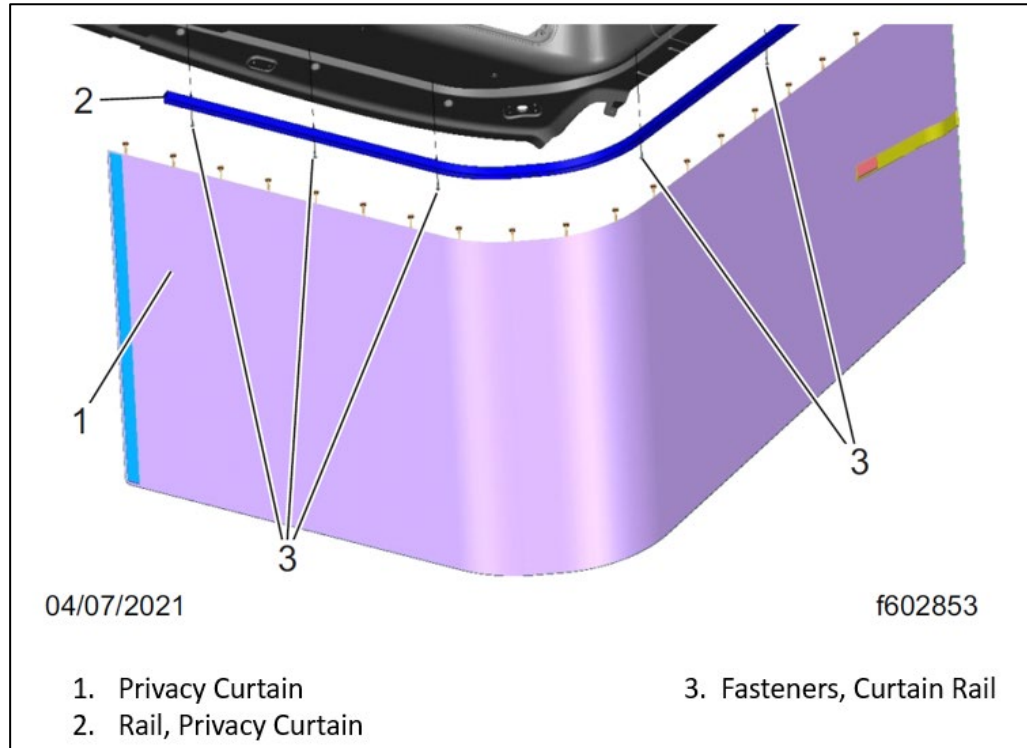

Fig. 61, Privacy Curtain Rail Assembly
13. Install the fasteners that attach the privacy curtain rail to the RH side overhead storage assembly. See Fig. 61. Tighten the fasteners 2.2 lbf.ft (3 N.m)